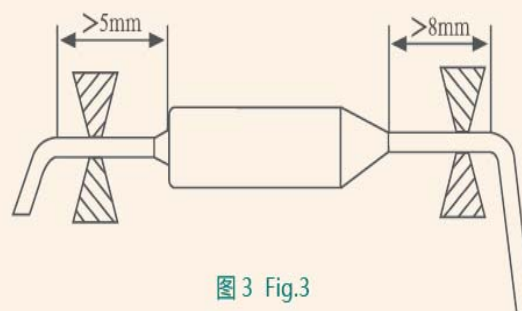

图 3 Fig.3
- 环氧树脂封装端的引出线若需折弯使用，请在距离环氧树脂部位 8mm 以外进行，以免损坏绝缘子，另一端的引出线的折弯，在距离外壳 5mm 以外进行。折弯时，请一边固定引出线（环氧树脂部位不施加力）一边折弯。（见图 3）
- When bending leads, secure the leadwire near the body of TCO, at least 8mm should be maintained between epoxy seals and lead bends and at least 5mm for the lead on the other side. (see Fig.3)